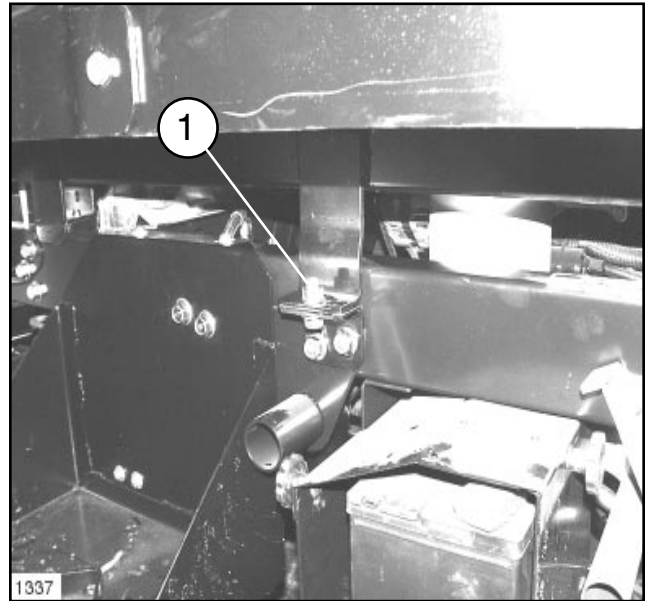

FIG. 1
F. Remove bed's Front Securing Bolts, shown in Figure 1.